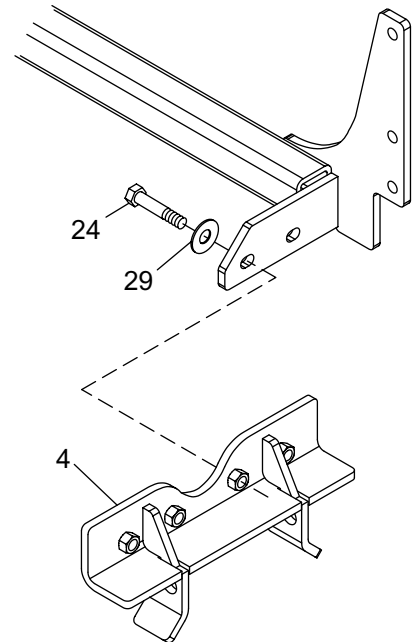

Figure 9 Crossmember Bracket Installation
1. Attach crossmember bracket (4) to right and left reinforcement brackets, using cap screws (24) and washers (29) as shown in Figure 9.